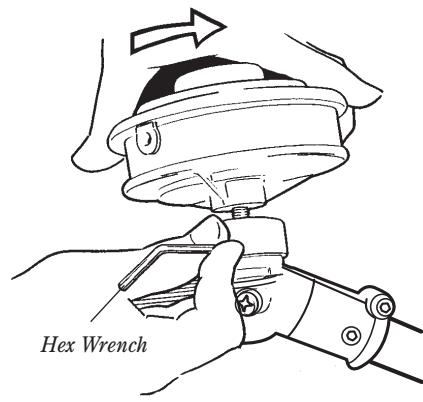

Figure 10
3. Rotate the holder until the hole in the holder aligns with the notch on the gear case. Use the long end of the hex wrench to lock the holder and output shaft. See Figure 10.